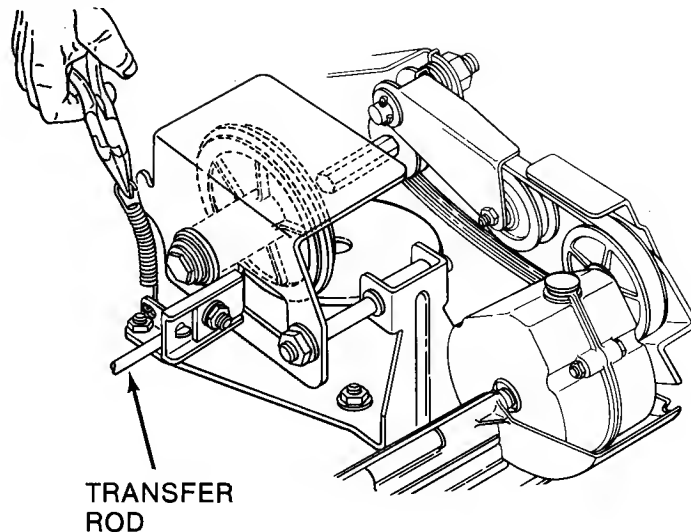
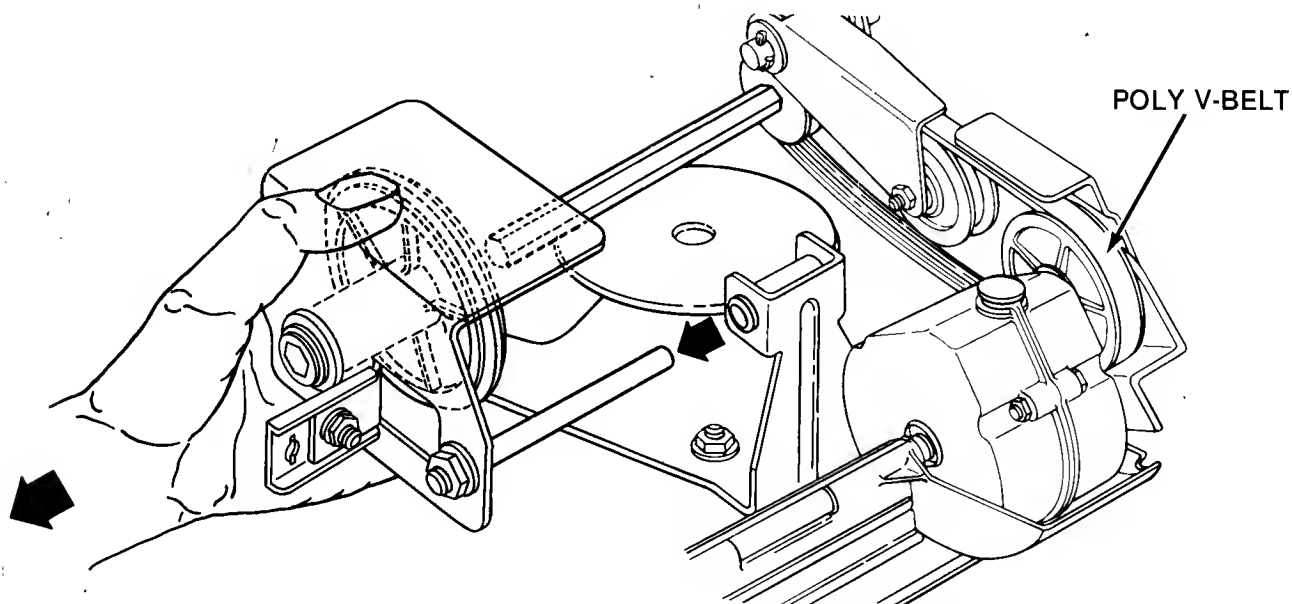

FIG. 17 - UNHOOKING DRIVE SPRING
FIGURE 18 - SLIDING DRIVEN DISC ASSEMBLY OFF
If the mower does not pull properly with the wheel drive clutch engaged, check for the following: Grease on drive disc causing slippage, broken or disconnected driven assembly spring (see Figure 17), driven disc too worn to contact the drive disc properly, driven disc out of adjustment. This condition could also be caused by worn belts. If the belts are in good condition and the clutch is properly adjusted, service the drive system as follows:
**DRIVEN DISC REPLACEMENT:** If the rubber of driven disc is badly chunked or worn down to within 1/16" of the metal rim, remove the driven disc assembly and replace the driven disc as follows: Remove the clip and detach the transfer rod from the speed control lever (Figure 17). Using a pair of needle nose pliers, unhook the drive spring and slide the driven disc assembly off as shown in Figure 18. Remove the five machine screws securing the rubber driven disc and separate the worn disc from the hub. Reverse this procedure to install the replacement disc and to reconnect the drive components.